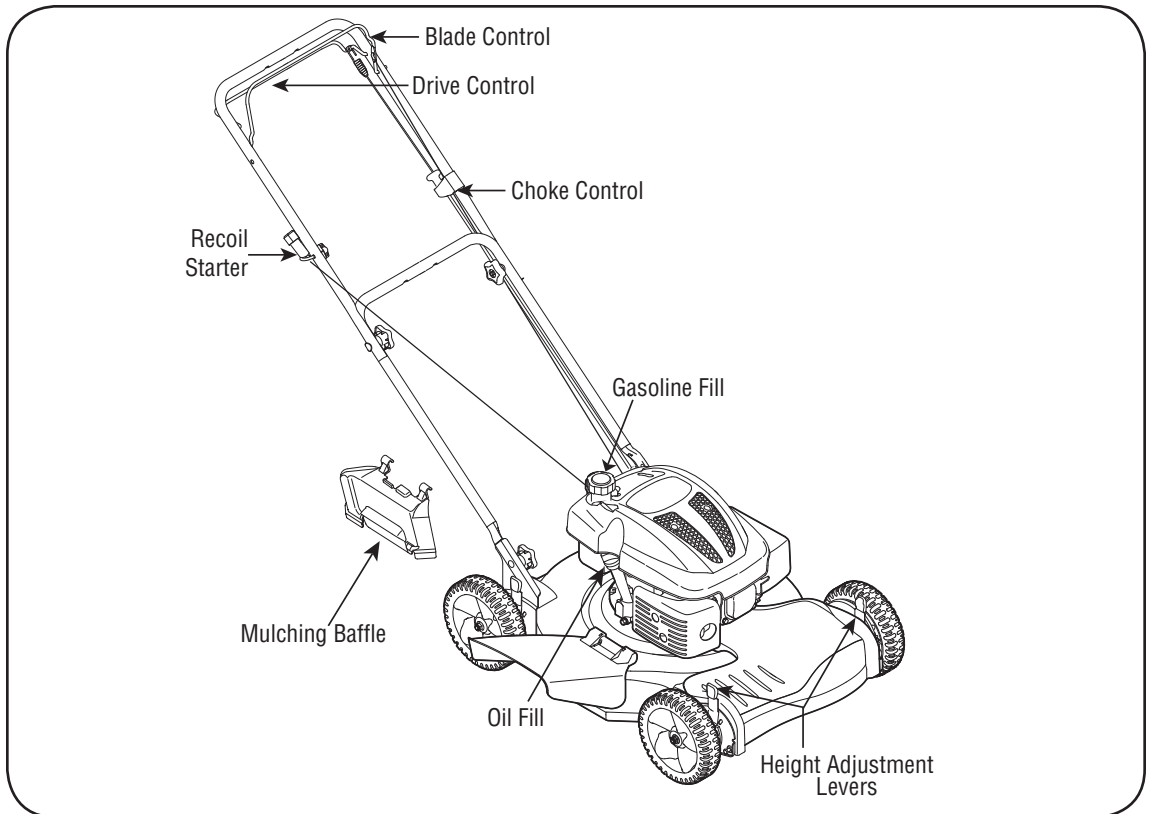

Figure 1
The drive control is located on the underside of the upper handle and is used to engage the drive. Squeeze it against the upper handle to engage the drive; release it to slow down or stop mower from propelling. See Figure 1.
1. Add oil provided before starting unit for the first time out of the box. Follow engine operation section for this. See Figure 1 above for location of the oil fill.
2. Service the engine with gasoline as instructed in the engine operation section. See Figure 1 above for location of gas fill.